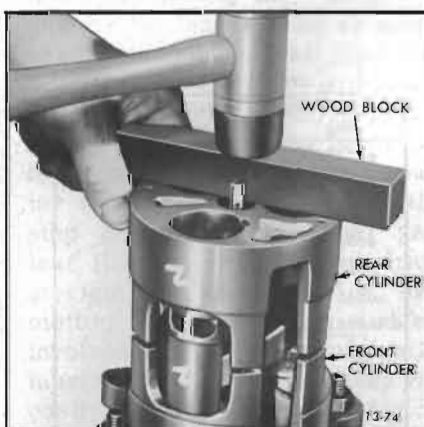

Figure 13-74—Assembling Rear Cylinder Half
9. Reassemble rear cylinder onto front cylinder using wood block and mallet (see Figure 13-74).